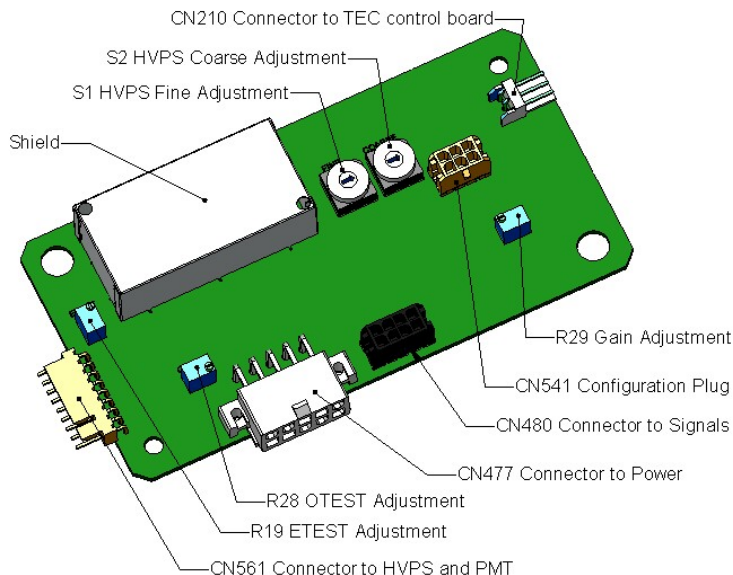

Figure 7-17: Pre-Amplifier Board Layout
2. On the preamplifier board (located on the sensor housing, Figure 3-5) find the following components shown in Figure 7-17: